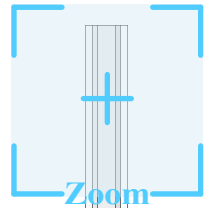

Fig. 25
Step 3. Zoom in on rear, **Fig. 25**.